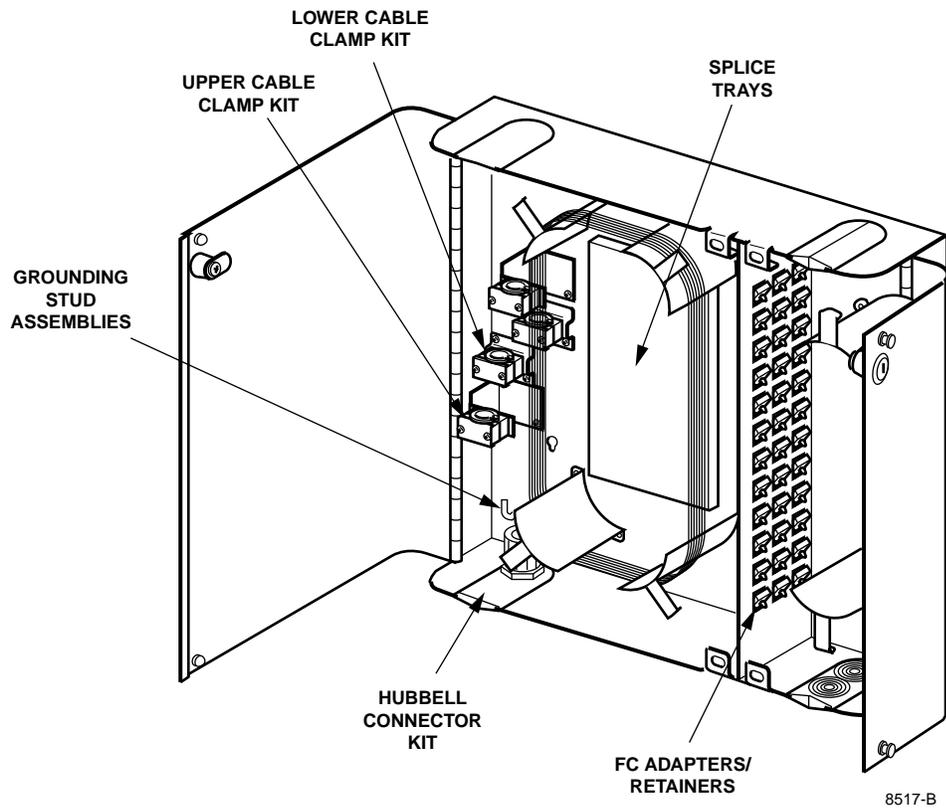

Figure 4. Wall Box Details
1.07 The splice trays are positioned on the back panel of the left side of the wall box (see **Figure 4**). They are secured by a horizontal splice strap assembly, the right end of which unhooks from the chassis. There is one radius limiter at each corner of this area.
2.11 If you purchased a “bare” wall box and now need to install the fiber cables, install the angled retainers and adapters one at a time in the vertical bulkhead plate in the front section of the wall box. The right side of each adapter should be pointing downward. Terminate the connectors to the left side of the adapters, then route the fiber cable(s) clockwise around the four radius limiters in the left side of the wall box as shown in Figure 4. Route the stub ends of the cables into one of the splice trays.